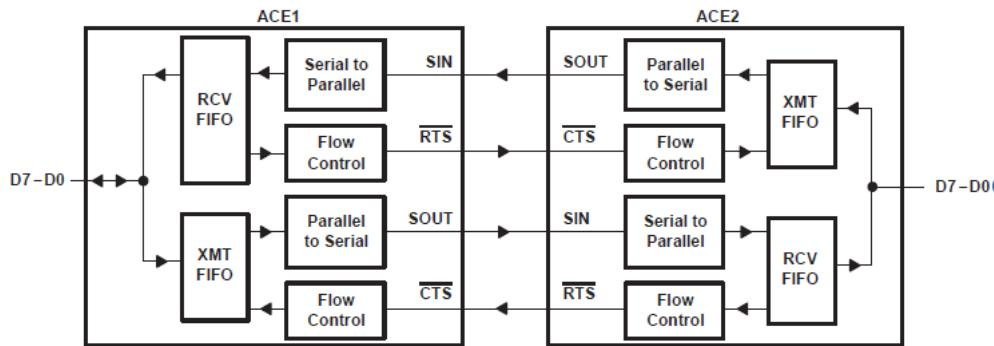

図 7-1. Autoflow Control (Auto-RTS and Auto-CTS) Example
7.1 Autoflow Control (see 図 7-1)
7.2 Auto-RTS (see 図 7-1)
7.3 Auto-CTS (see 図 7-1)